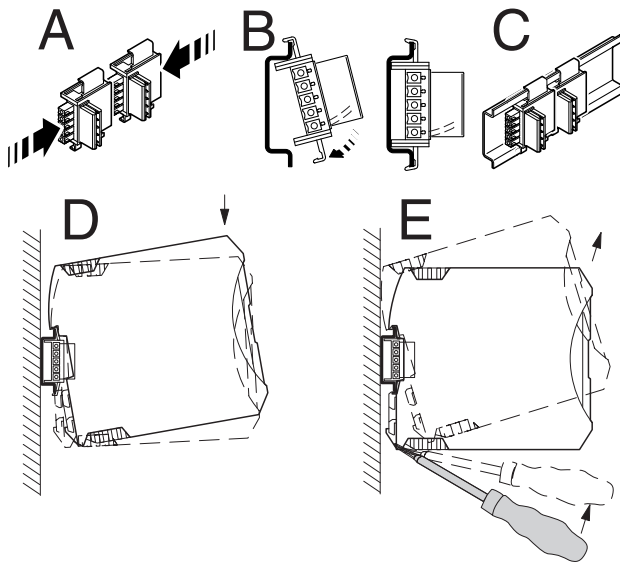

Bild 6 Mounting and removing
- When using the DIN rail connector, first insert it in the 35 mm DIN rail according to EN 60715 (see Figure 6, A - C). The DIN rail connector is used to bridge the power supply and communication.